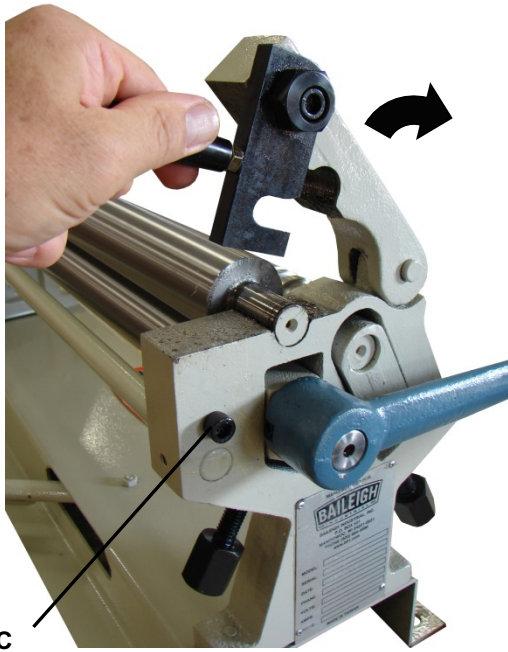

Figure 7-2
1. Grasp the handle on the locking plate and pivot clockwise (**cw**) to release from the lock bolt (**C**) (fig. 7-2).